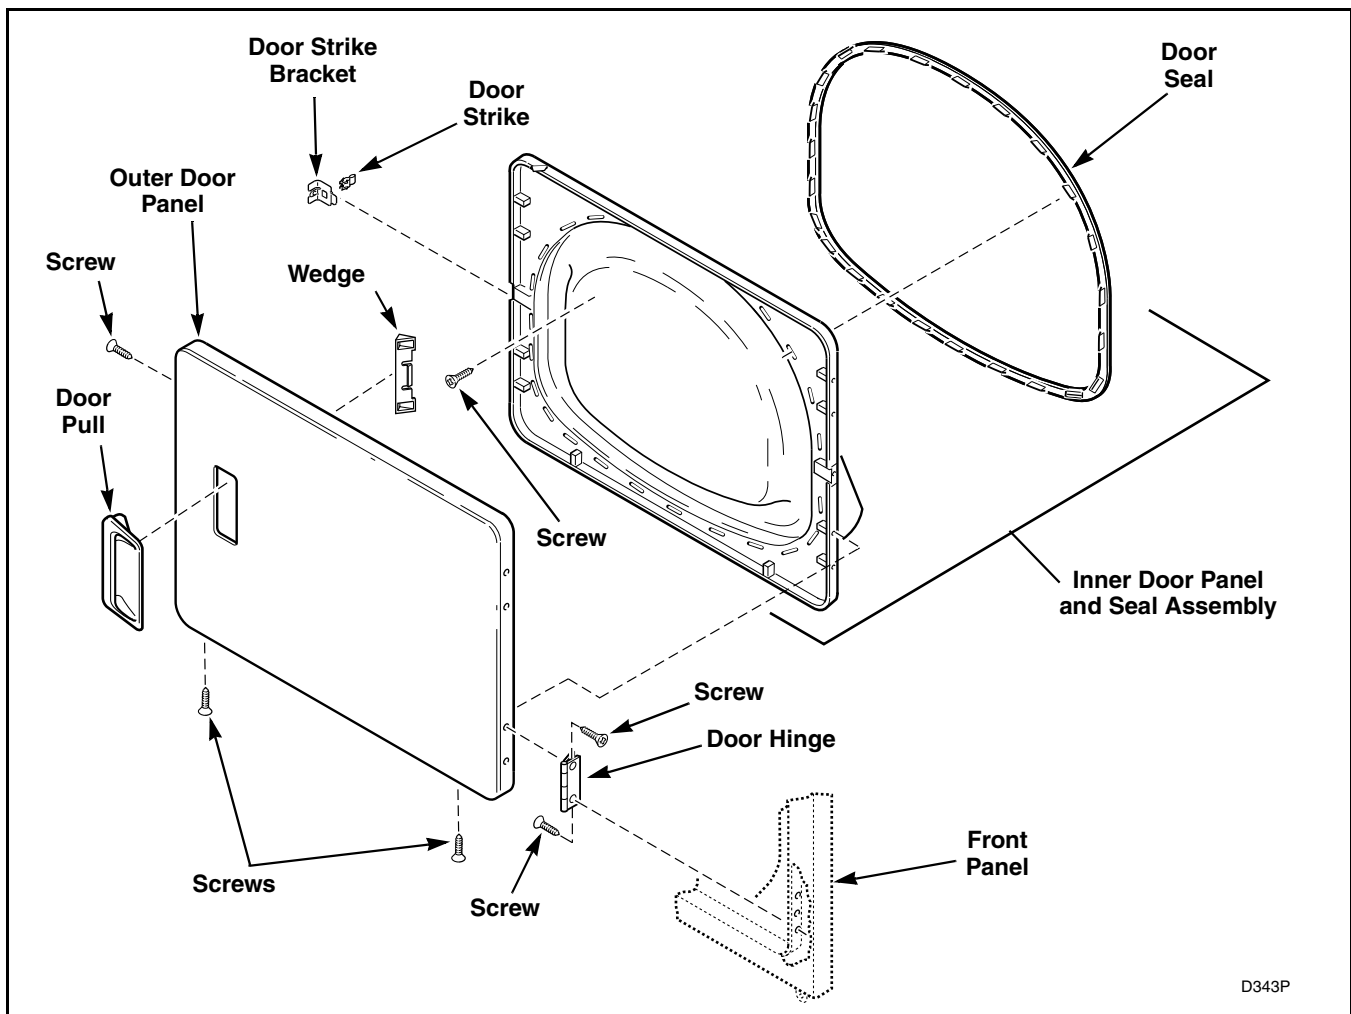

Figure 13
- Remove remaining screws around the door assembly and separate panels. Refer to *Figure 13*.
- Remove wedge (located behind door pull) by carefully prying up on center of wedge. Refer to *Figure 13*.
d. Remove door pull. Refer to *Figure 13*.
- Remove screw holding door strike and bracket to loading door and remove strike and bracket. Refer to *Figure 13*.